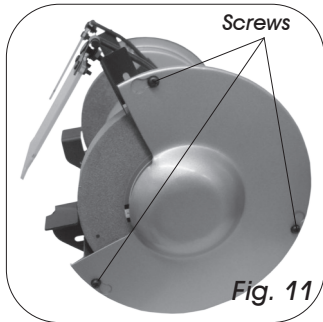

Fig. 11
- Loosen the 3 screws that hold the side cover on (Fig. 11).